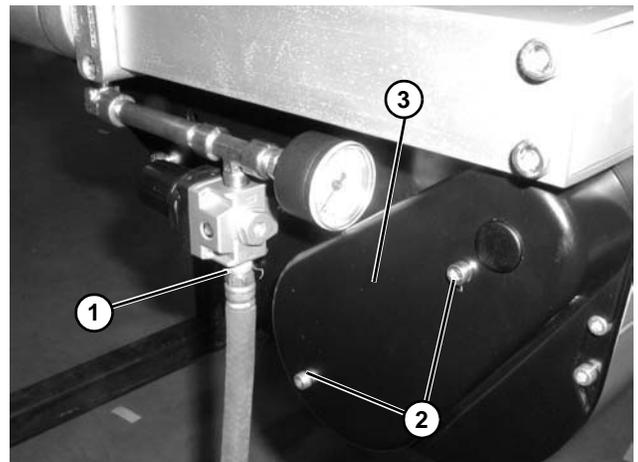

Figure 115
1. Remove air supply and remove hose (Figure 115, item 1) from center drive.
2. Remove screws (Figure 115, item 2) and guard (Figure 115, item 3).